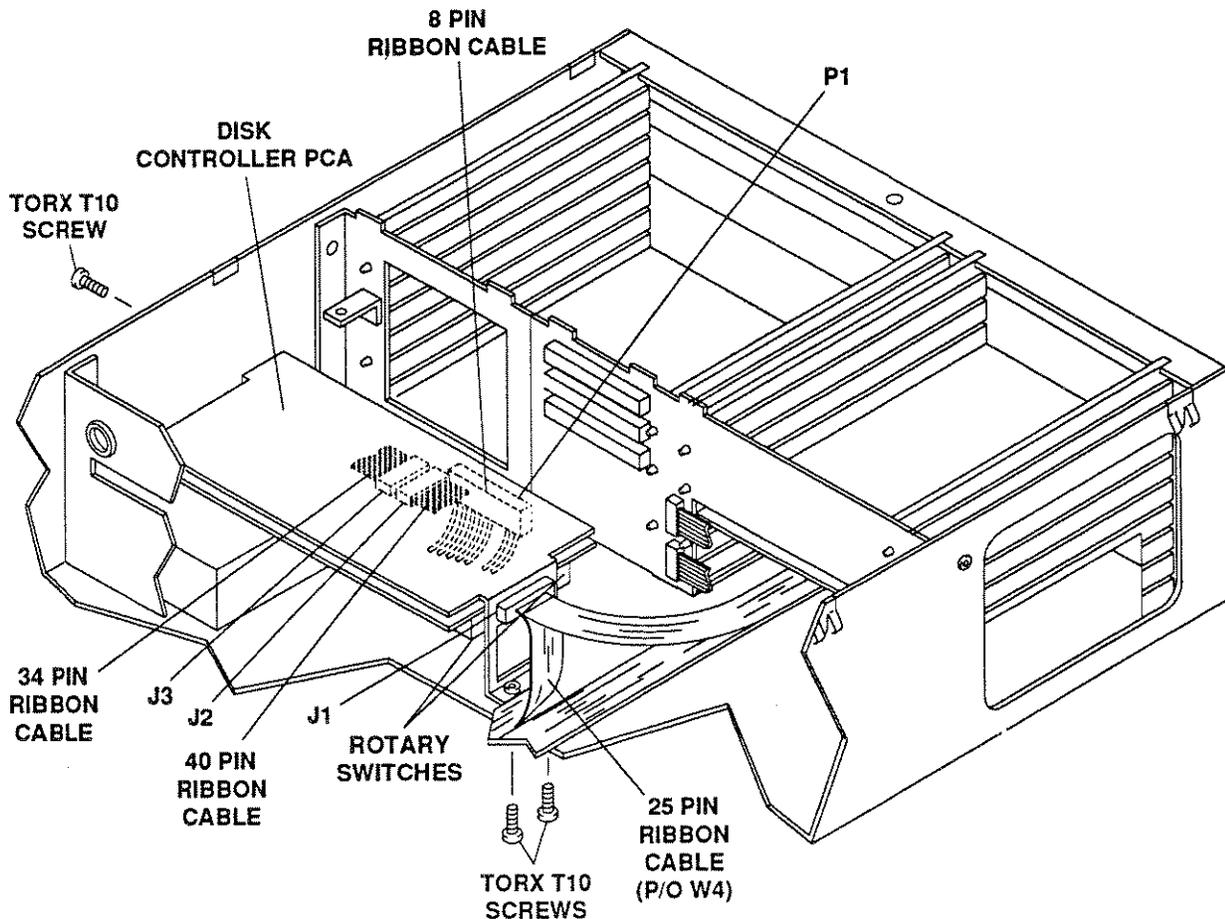

Figure 8-17. Remove and Replace Optional Disk Controller PCA
4. Remove the Disk Controller PCA (see Figure 8-17).